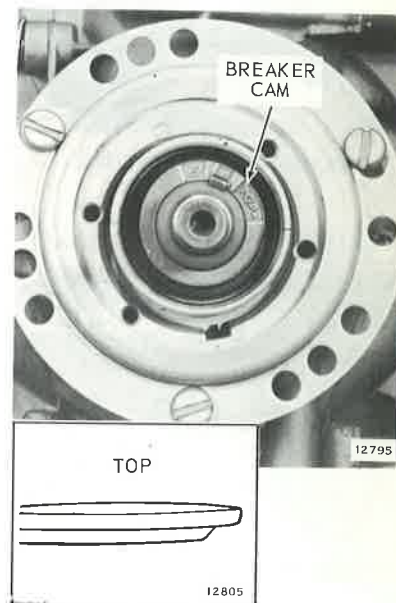

Figure 4-26. Armature Plate Support Position
c. Install cam, making certain that side marked "TOP" is up. See Figure 4-26.
d. Apply a coat of OMC Sea-Lube* Anti-Corrosion Lubricant to the armature plate support, retaining ring, and bushing in armature plate. Attach to power head. Align holes of the armature plate support ring to correspond to the position of the armature plate. See Figure 4-26. DO NOT add oil or grease to the oiler wick on the armature plate.